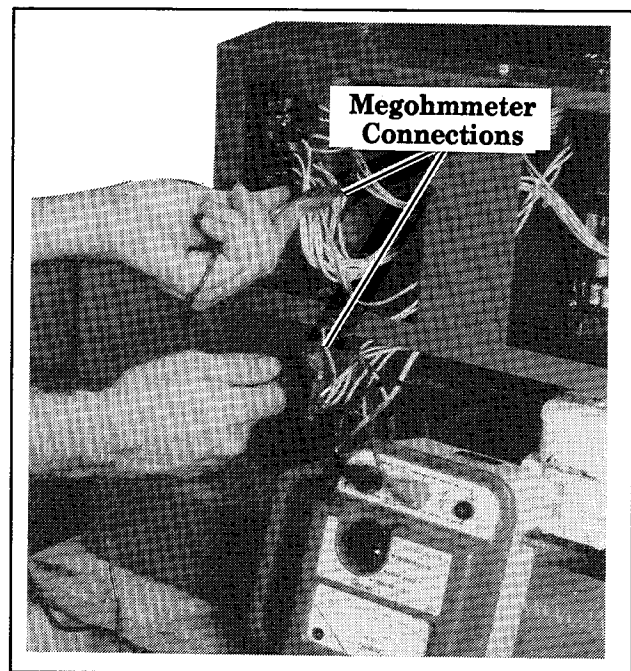

Figure 8-23. Megohmmeter Connections on Stator
7. Check stator for a grounded condition. Using a megohmmeter, apply 500 Volts DC to any stator lead from each winding and stator frame. See Figure 8-23. (Follow the instructions of the megohmmeter manufacturer when performing this test.) Repeat test on other leads until all stator windings have been tested. A reading of approximately 500K ohms (1/2 megohm) and higher indicates the stator is good. A reading of less than 500K ohms (approximately) indicates deterioration of winding insulation and possible current flow to ground. Repair or replacement of the stator is necessary.